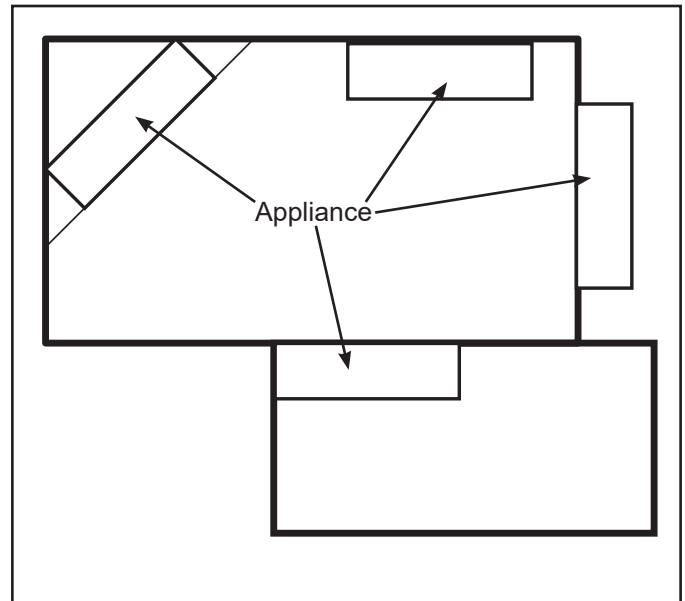
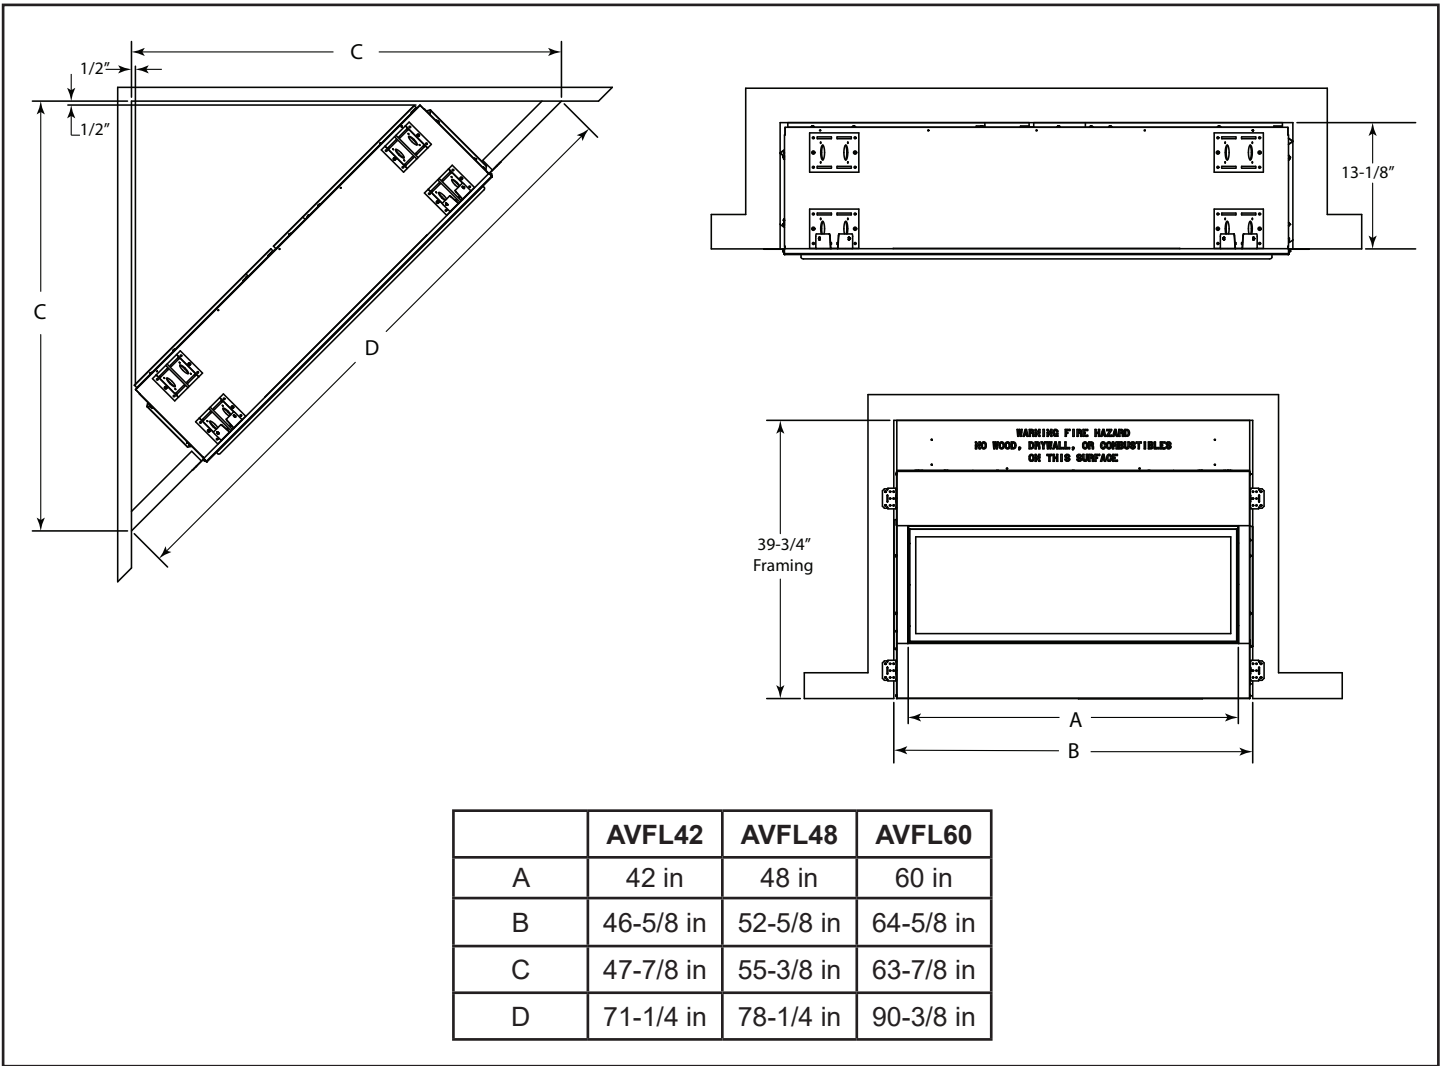

Figure 2.2
Figure 3.4 - Framing Dimensions
1. Position appliance in desired location. Refer to the *Appliance Location* (page 7, Figure 2.2) and *Clearances and Height Requirements* (page 12, Figures 3.6 and 3.7) sections and *Appliance and Framing Dimensions* (page 10 and 11, Figure 3.4 and 3.5) illustration found in this manual.
- Minimize modifications to existing construction. Refer to Figure 2.2 below for location suggestions.